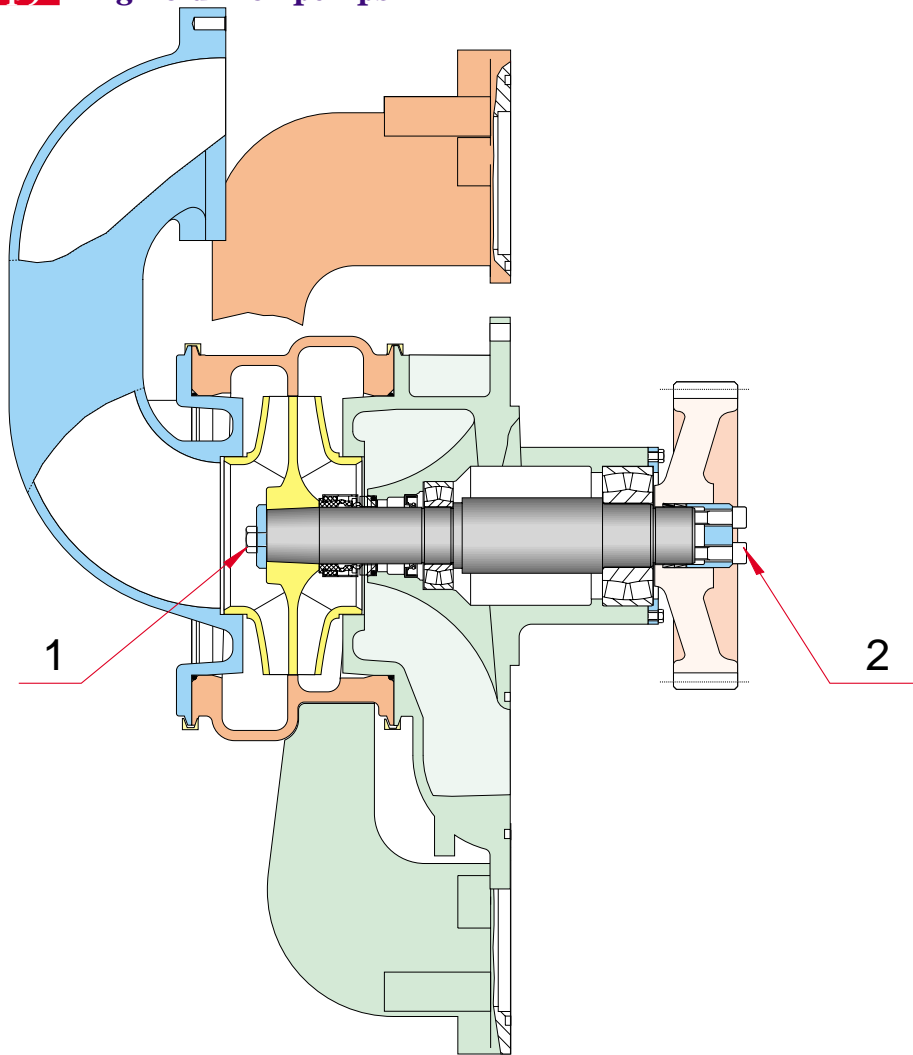

Fig. 07-24
- It is recommended, when filling the high pressure pump oil tank, to connect the hydraulic tool as indicated in Fig. 07-24. Before commencing filling, open the bleed valve (2) and drain the heads (4) by pushing the piston. Then fill the oil tank via the filler cap (1).
- Check the pressure gauge operation at regular intervals. A calibration pressure gauge can be provided for this; it can be fitted to the opening (7), with the pump outlet hose